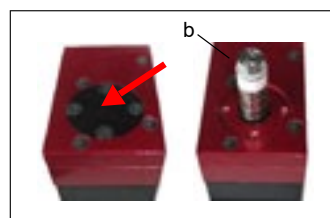

FIG. 16
- Unscrew the screws in the round cap situated on top of the tapping unit and remove it (FIG. 16). The spindle will be pushed up by the spring inside the machine
- Secure and screw the round cap (FIG. 16) back into the tapping unit;